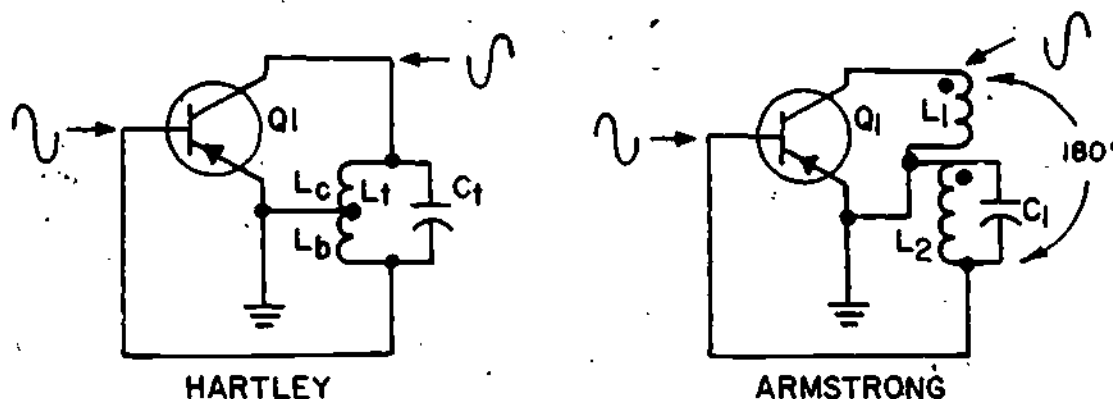

Figure 2
- Two simplified AC equivalent schematics are shown in Figure 2. These schematics are for the Hartley and the Armstrong oscillator.